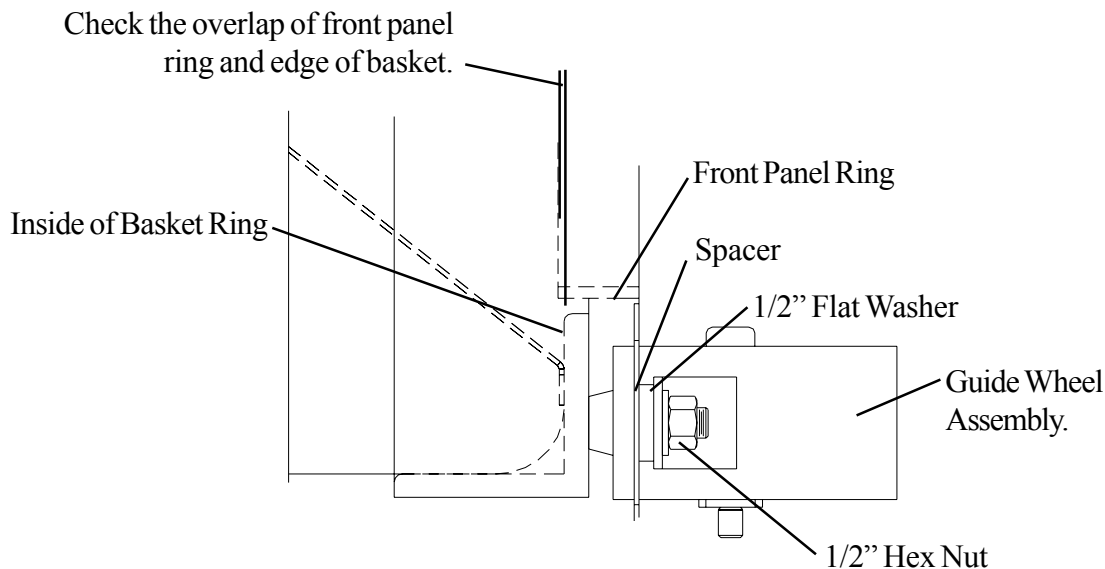

FIGURE -3A
STEP 2: Check alignment of the inside of basket ring and the front panel ring. The front panel ring edge should be even or slightly past the inside of basket ring (See Figure-3A). If guide wheel adjustment is fine then go back to *Basket Alignment Directions*. If the inside of the basket ring is past the end of the front panel ring then the guide wheel assembly is in too far and needs to have a spacer(s) removed. If the edge of the front panel ring is past the inside of the basket ring more than a quarter of an inch the basket may be too close to the front panel. The guide wheel needs a spacer(s) added. **If the inside of the basket ring is too far out past the front panel ring, garments could get caught between the basket and the front panel.**